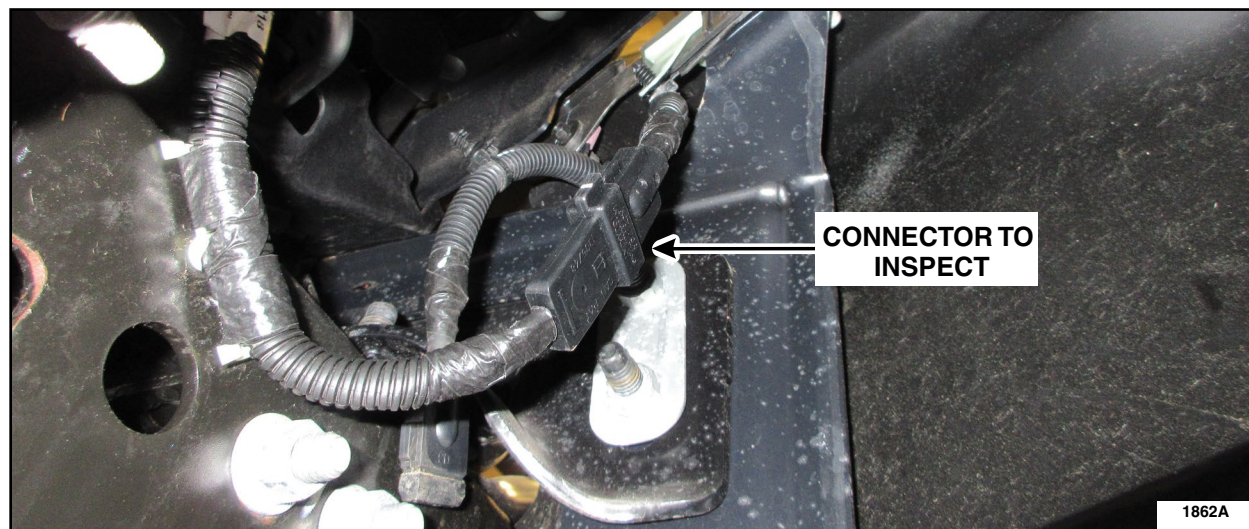

FIGURE 1
1. Inspect the wire assembly at the in-line connector behind the front bumper for corrosion on both sides of the wire assembly. See Figure 1.